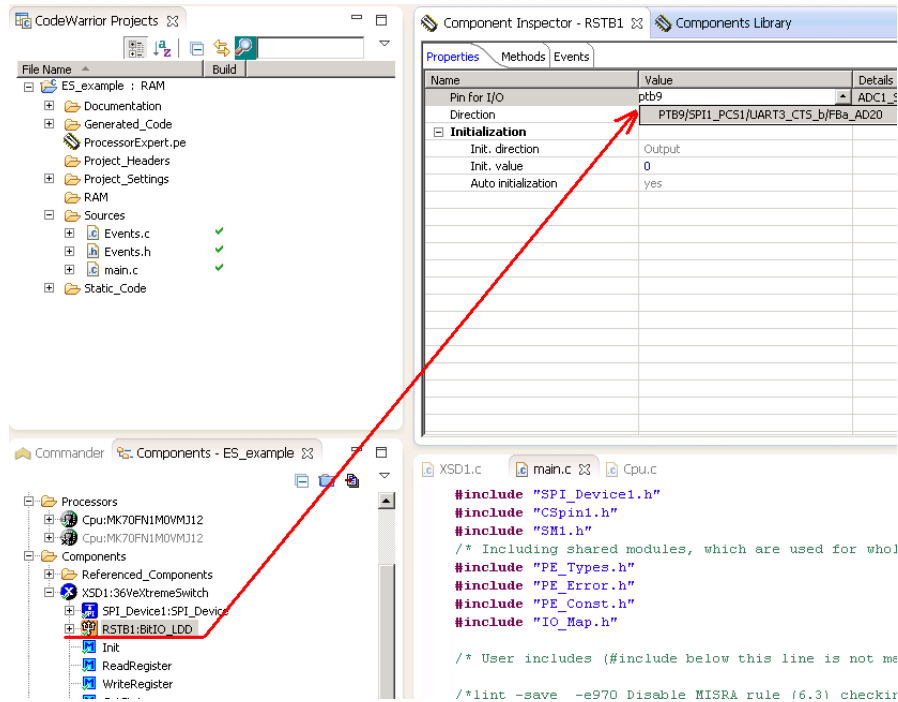

Figure 19. Select PTB9
- Double click 36VeXtremeSwitch->RSTB1 component and set pin as PTB9 for TWR-MC36XSDEVB whole board reset control (see Figure 19).